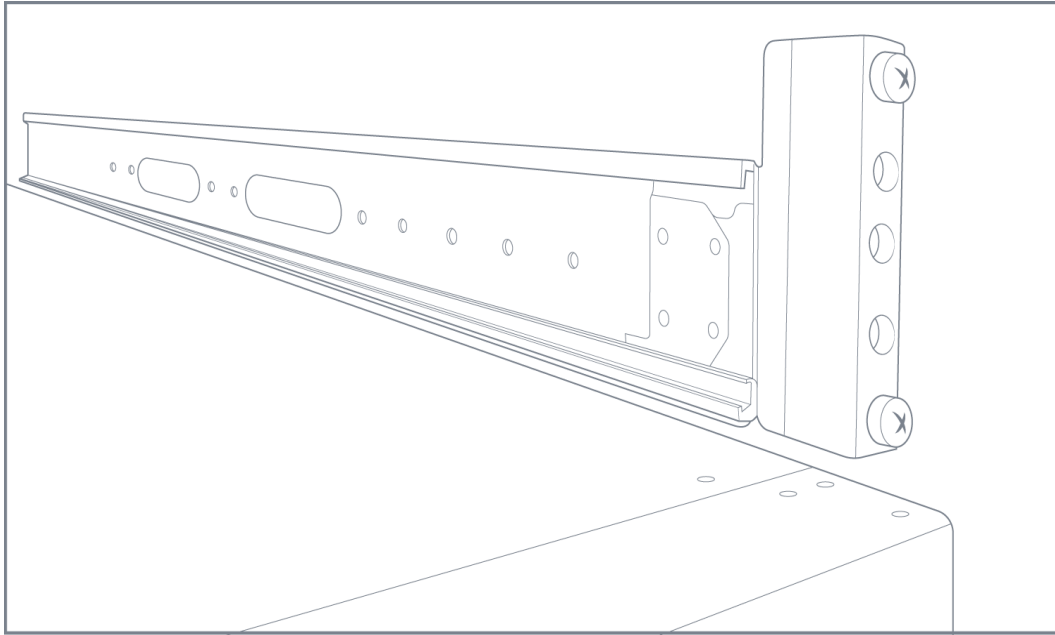

Figure 3-2: Slide Rail Installed in Four Post Rack
5. Locate an open 3RU rack space and install the left and right rails of the mounting slide in the rack. The assembly for a four-post rack differs from the assembly for a two-post rack. Refer to Figure 3-2 on page 54.